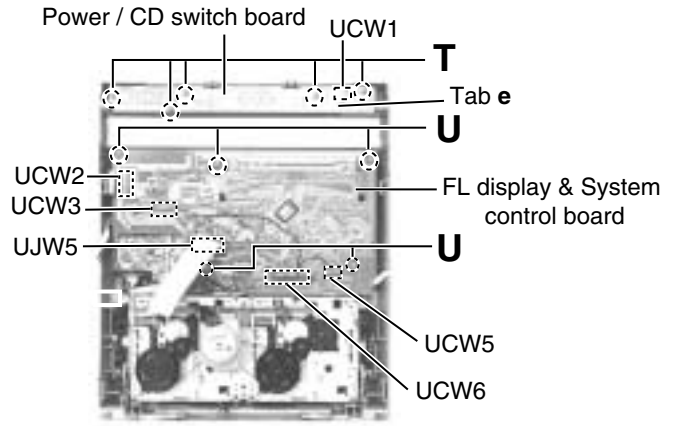

Fig.22
■Removing the power / CD switch board (See Fig.22)
■Removing the FL display & system control board (See Fig. 22)